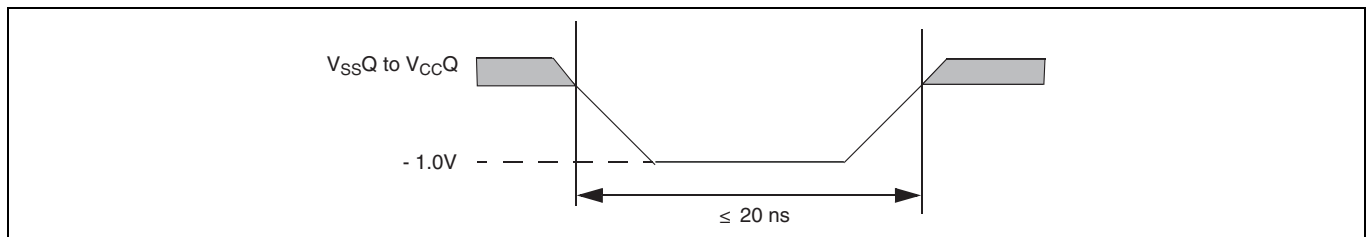
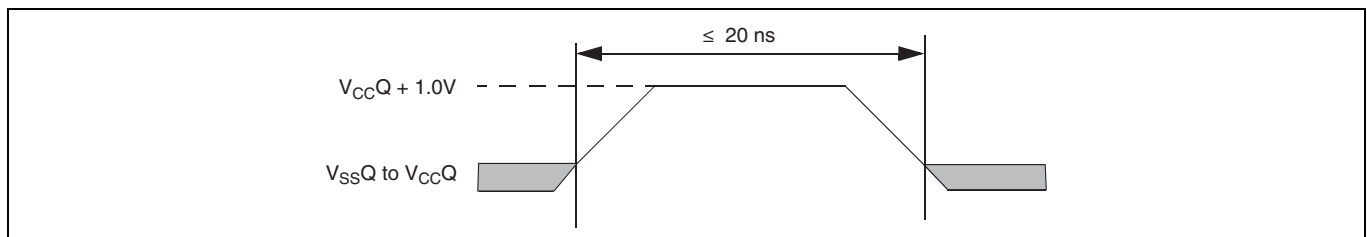

Figure 17 Maximum negative overshoot waveform
Figure 18 Maximum positive overshoot waveform
47. Minimum DC voltage on input or I/O signal is -1.0 V. During voltage transitions, input or I/O signals may undershoot V_{SS} to -1.0V for periods of up to 20 ns. See Figure 17. Maximum DC voltage on input or I/O signals is V_{CC} + 1.0 V. During voltage transitions, input or I/O signals may overshoot to V_{CC} + 1.0 V for periods up to 20 ns. See Figure 18.